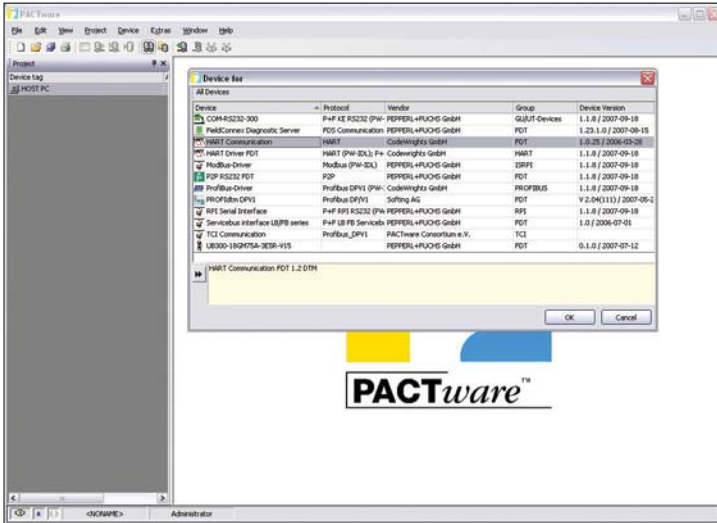

Figure 27. 'HART Communication' FDT
- Right click and select 'Add device' from the toolbar and add the 'HART Communication' FDT as shown in Figure 27.